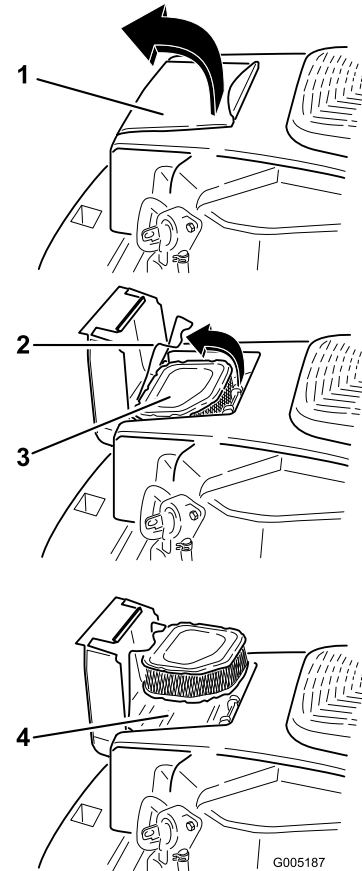

Figure 30
1. Open the air cleaner cover door on the blower housing to access the air cleaner element (Figure 30).
2. Unhook the latch and remove the air cleaner element (Figure 30).